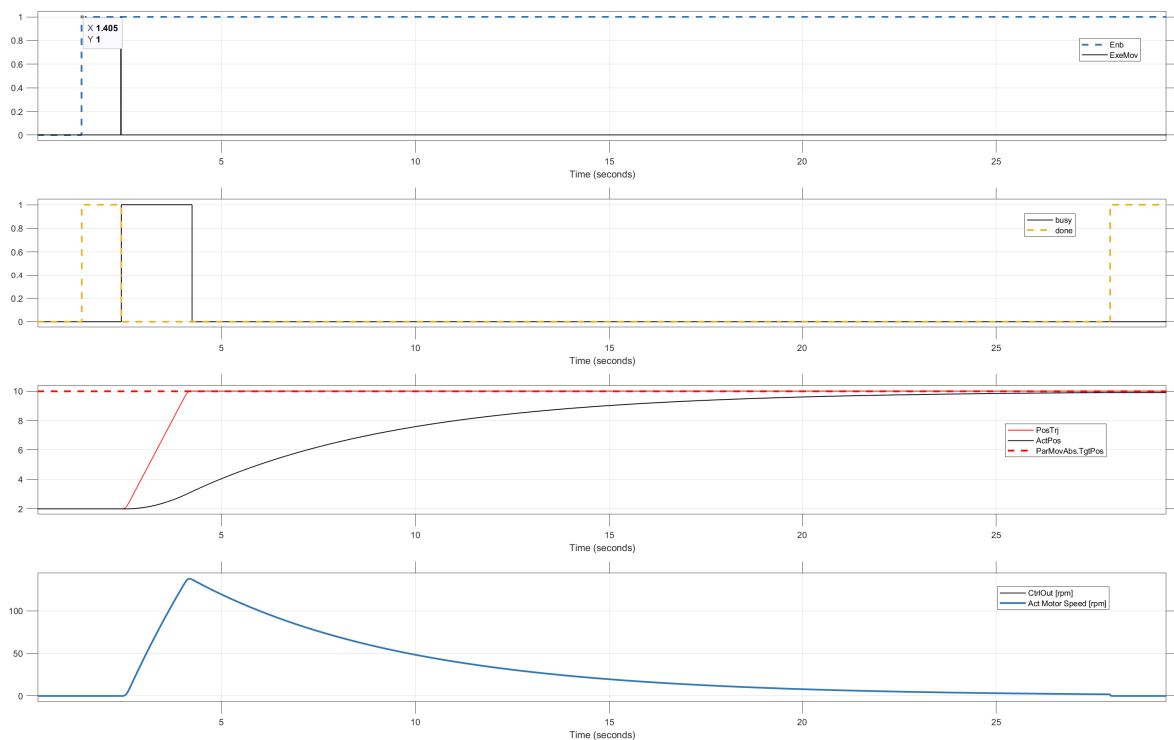

Figure 15: K_p increased to 20, still small!! ($K_p = 20$, $K_i = 0.0$, GainFwdSpdCtrl = 0.0, GainBwdSpdCtrl = 0.0, Window = 0.2mm, TuneTime = 0.3s)
- Objective: Continue this process until the position trajectory (*PosTrj*) and the actual position are parallel, indicating proper tuning. see figures 15, 16 and 17.